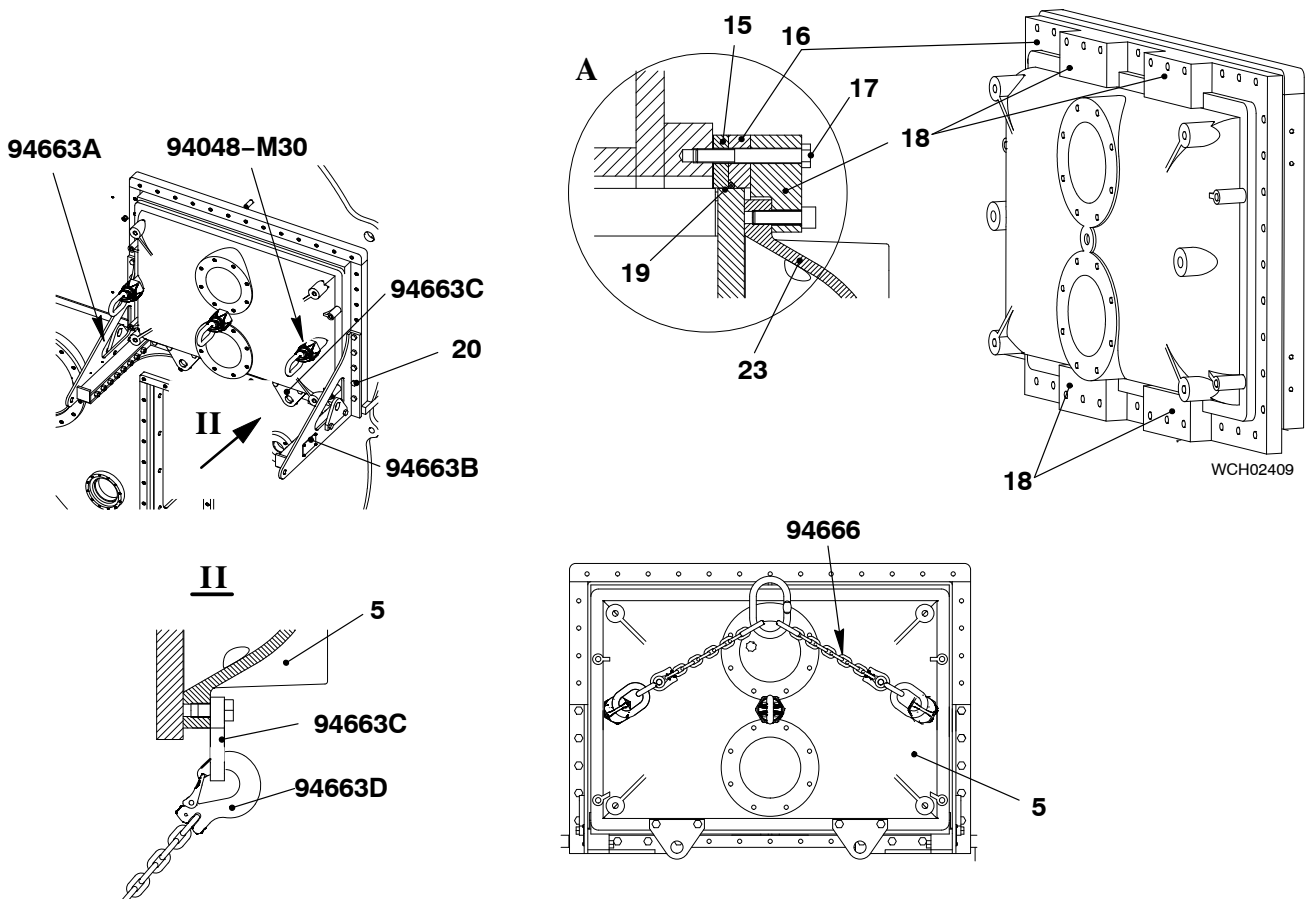

Fig. 4
- 1) Attach the two trolleys (94021) to the rail (1).
- 3) Install the dismantling pipe (94664A) to the attachment points on the rail (1) and the platform.
**Note:** For View A and View I, see Fig. 4.
- 4) Remove the four holders (18, Fig. 4) from each end of the SAC (5).
- 5) Remove the flanges (16), O-rings (19) and the inserts (15). Discard the O-rings.
- 6) Attach the two safety lugs (94663C) to the SAC (5).
- 7) Attach the supports (94663A, 94663B) to the positions shown with the screws (20).
- 8) Torque the screws (20) to 136 Nm.
- 10) Attach three swivel lugs (94048-M30) to the front and rear of the SAC (5).
- 12) Attach the double-chain slings (94666) to the swivel lugs (94048-M30) on the front and rear of the SAC (5).